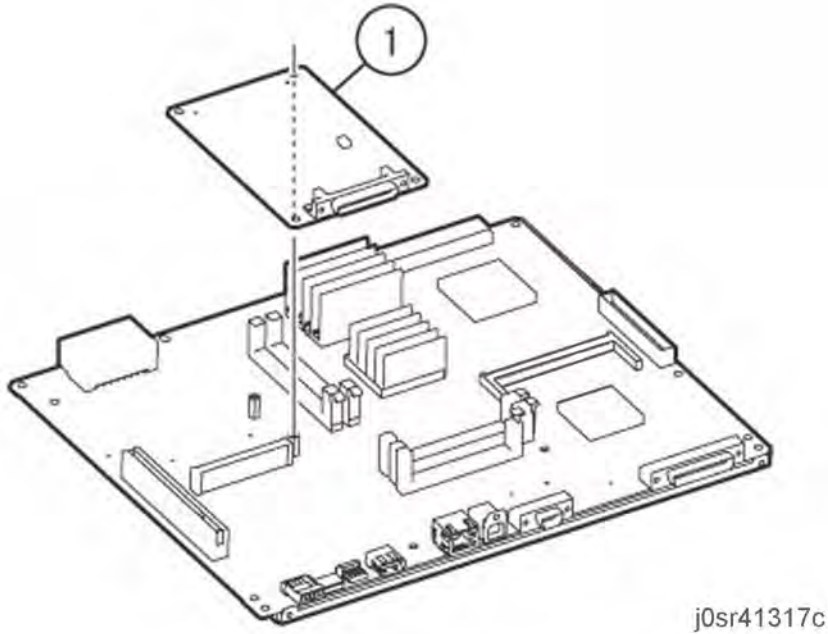

Figure 3 Removing the UI PWB
4. Remove the UI PWB (Figure 3).